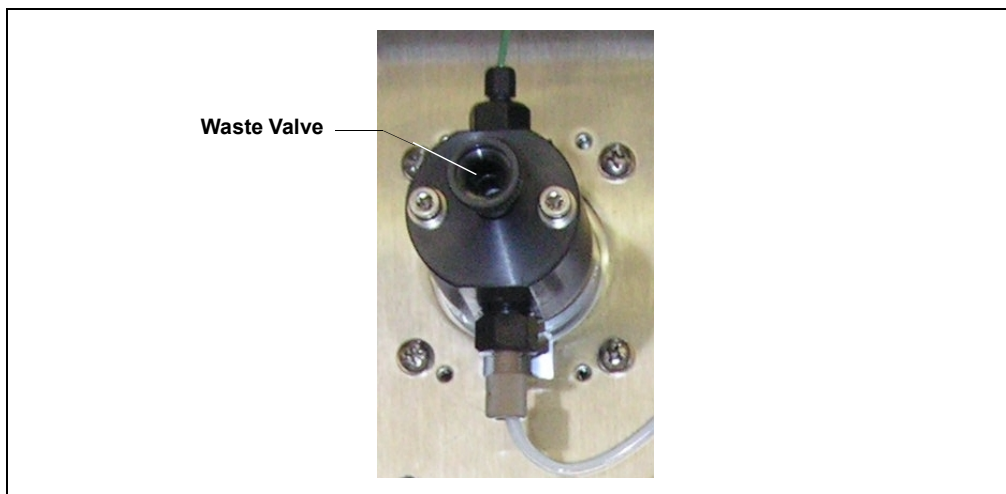

Figure 10-5. Waste Valve
3. To remove the waste valve from the pump head (see Figure 10-5), turn the knob counterclockwise until it is loose, and then pull the knob straight out of the cavity in the pump head.